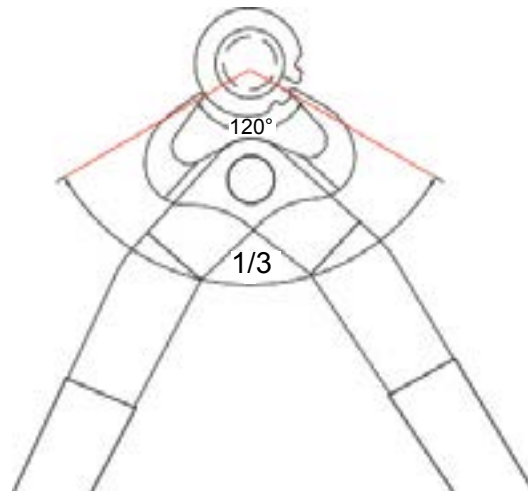

Fig. 5
- 2) Remove – position tool as fig. 5. Squeeze pull & twist, clip will release.